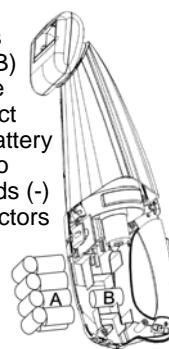

Fig. 8
5. Carefully lift out the top battery pack (A) and disconnect the terminals. Then remove the single battery (B) that is on the bottom and disconnect the terminal. (Fig. 8)
6. Connect the terminals to the single battery (B) first and insert into the new unit. Then connect the terminals to the battery pack (A) taking care to connect the black leads (-) to the negative connectors first and the red leads (+) to the positive connectors second.